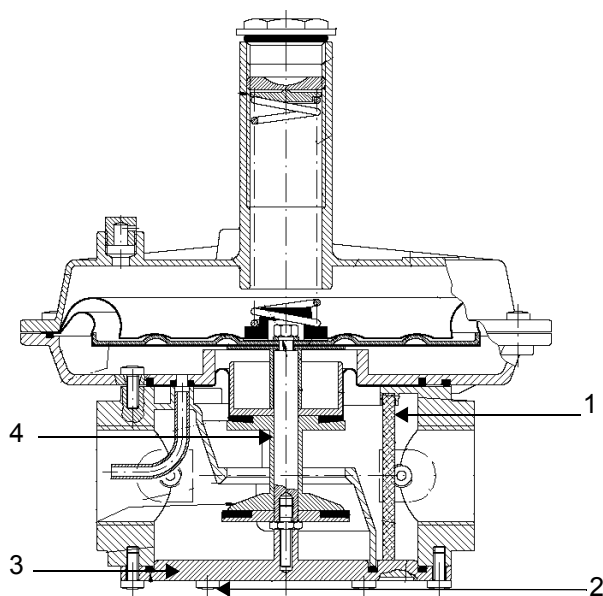

Fig. 19 - threaded body
To check the filtering part (1) on threaded bodies (see picture Fig. 19):
- remove the filtering part (1), clean it with water and soap, blow it with compressed air or replace it if necessary;
- reassemble the filtering part in its initial position checking that it is placed in its own slots (see picture Fig. 19);
- reassemble the bottom cover (3), being sure that the main bolt is centered in the bottom cover slot.